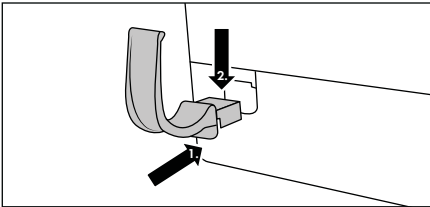

Fig. 1
- ◆ Insert the hose holder **15** into the opening of the appliance and push it down to seat it firmly (see Fig. 1).